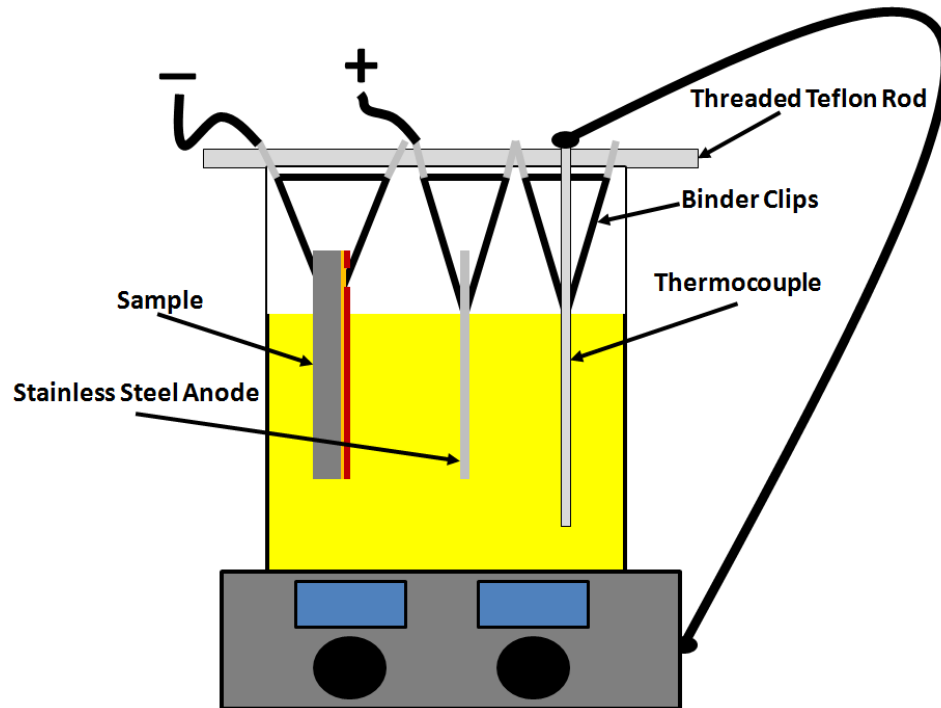

Figure 11 Complete electroplating setup with electrical connections and temperature feedback.
- ix. The completed set up should look similar to the picture below (**Figure 11**).